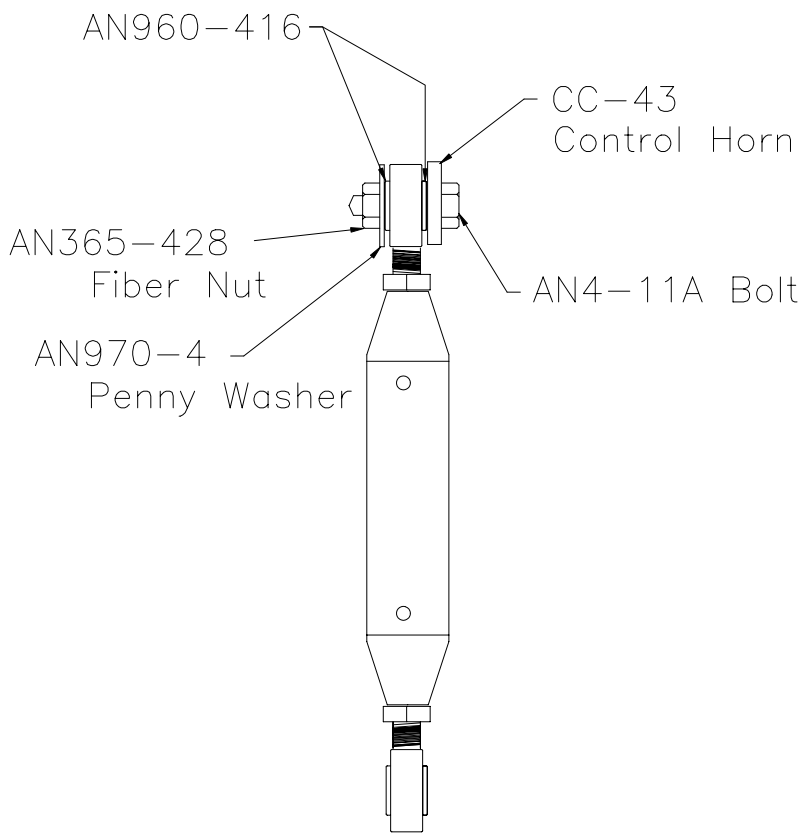

Figure 8.27.2
2) Attach push-pull tube (CC-82) to the control horn (CC-43) with an AN4-11A bolt, AN970-4 washer and an AN365-428 fibernut. Figure 8.27.2.